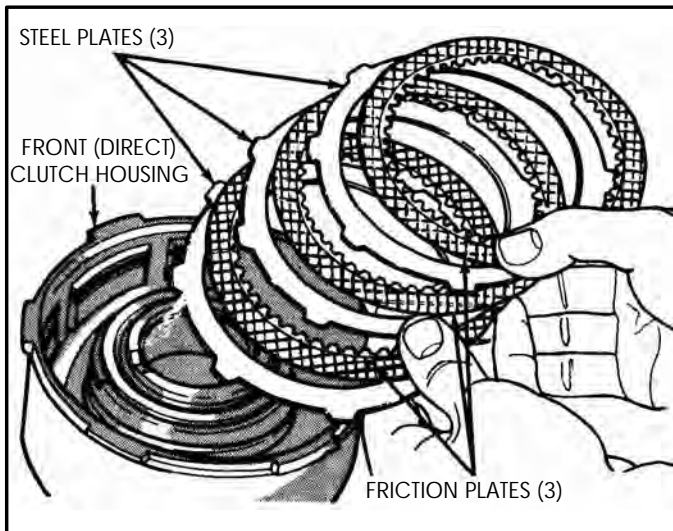

Figure 68
3. Remove the friction and steel plates from front (Direct) clutch housing (See Figure 68).